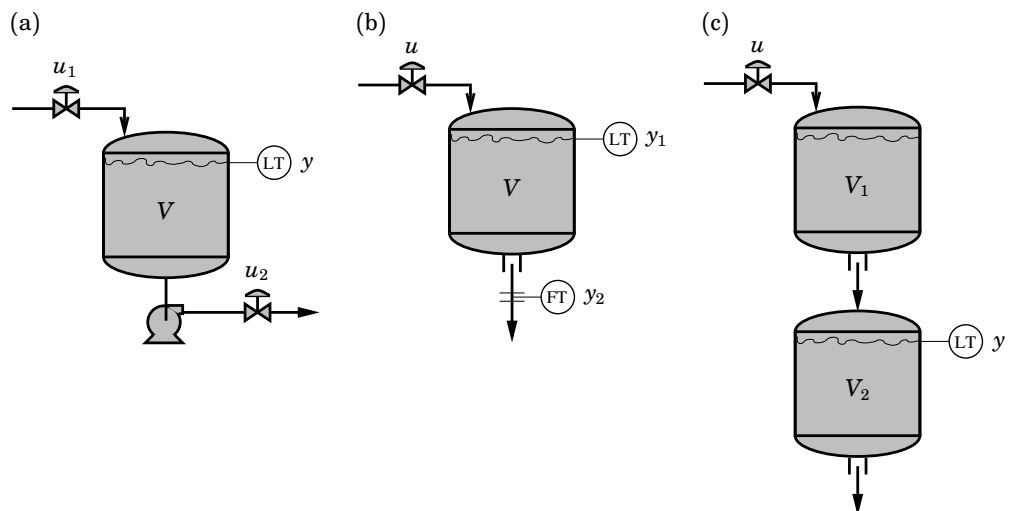

Figure 2.1 The processes in Problem 2.1.
2.1 For each of the processes in Figure 2.1, derive the process dynamics and write the system in state-space form. What is the order of the system? Is the system linear or nonlinear?